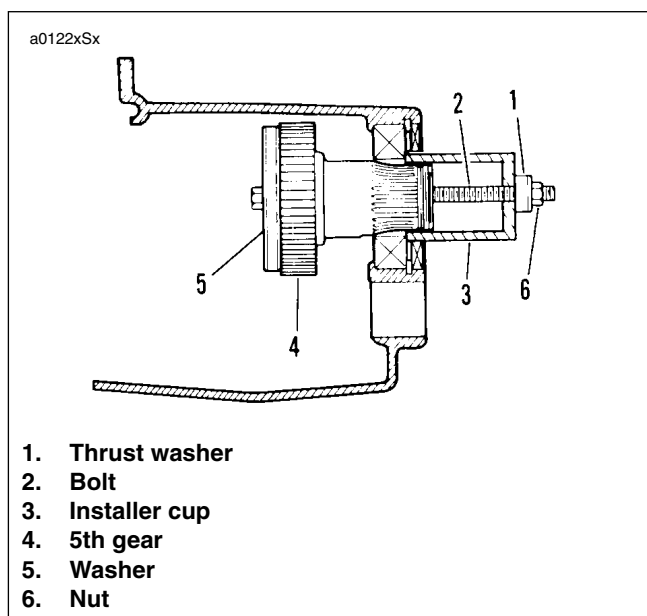

Figure 6-41. Main Drive Gear Installation
2. See Figure 6-41. Use MAIN DRIVE GEAR REMOVER AND INSTALLER (Part No. HD-35316-A) for assembly.
- a. Take bolt (2) and place washer (5) followed by main drive gear (4) over end of bolt.
- c. Insert threaded end of bolt (2) through installer cup (3) and thrust washer (1).
- d. Thread nut (6) onto end of bolt (2). Tighten nut (6) until shoulder on gear (4) bottoms against inner race of bearing.